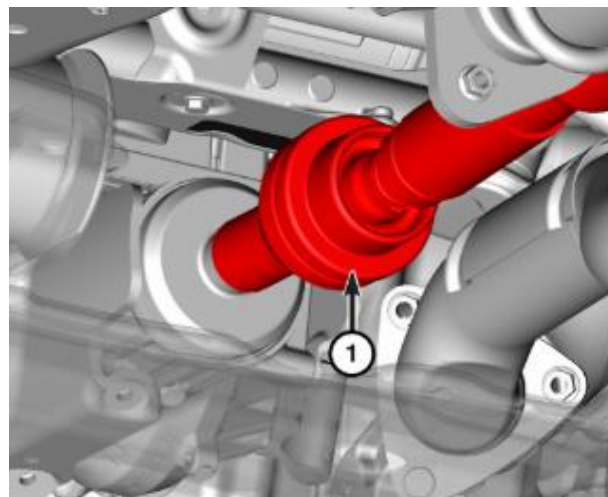

Figure 17 – Driveshaft
8. Using a brass drift, disconnect the driveshaft (1) from the PTU. Rest the rear driveshaft on the front subframe (Figure 17).
18. Connect the driveshaft from the PTU (Figure 17).